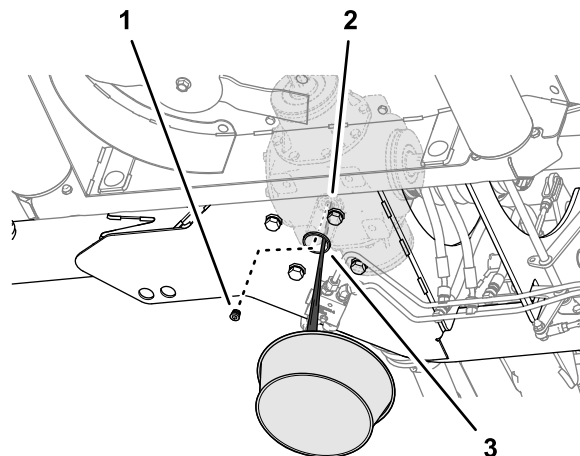

Figure 60
1. Working through the access hole at the bottom-frame plate of the mower, align a drain pan under the hole (Figure 60).
2. Remove the socket-drain plug from the drain port of the center gearbox and allow the lubricant to drain completely (Figure 60).